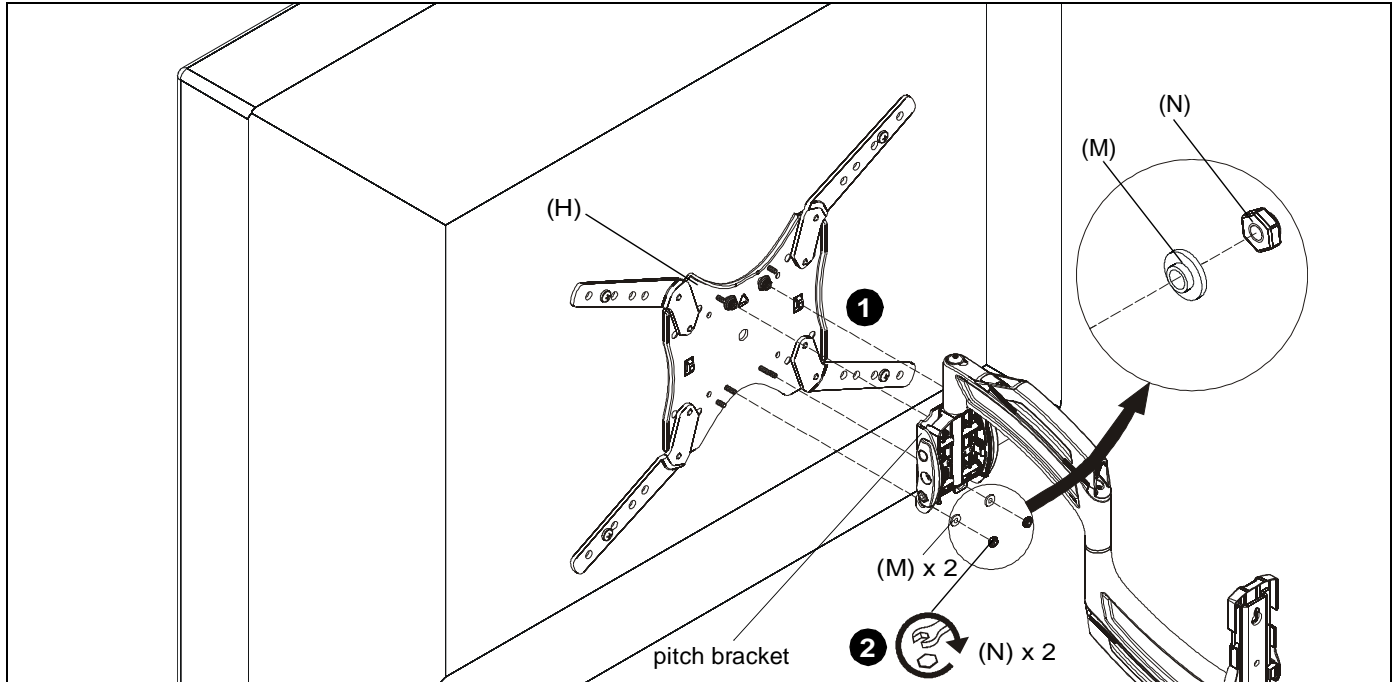

Figure 12
1. Hang faceplate (H) to main assembly (J) by placing two mounting buttons near top of faceplate over two teardrop grooves on top of main assembly's pitch bracket. (See Figure 12)
2. Secure faceplate to pitch bracket by installing two #10-24" flange nuts (N) and two roll flange spacers (M) onto screws on faceplate (H). (See Figure 12)
IMPORTANT ! : Make sure roll flange spacers (M) are installed with the flat side directly against the flange nuts (N)! (See Inset View on Figure 12)